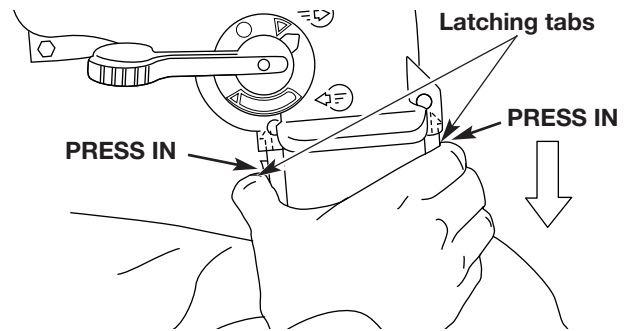

Fig. 20
2. While pressing the latching tabs on both sides of the vacuum bag tube, pull the vacuum bag down off the unit (Fig. 20).